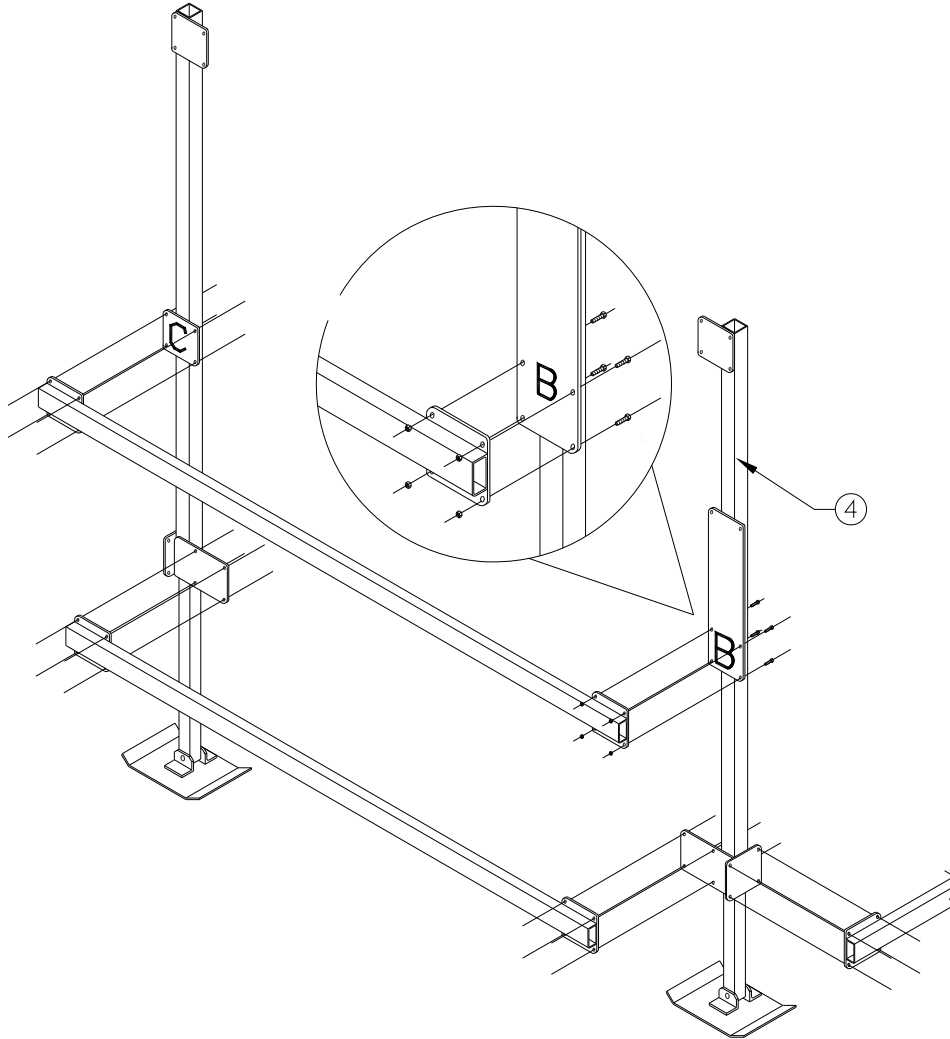

Figure 3-4
1. Refer to Figure 3-4. Loosen and remove all bolts from horizontal tubes that attach to the 'B' leg of the lift. Remove and discard the old 'B' leg and replace with the new 'B' leg supplied (detail 4).
5. Fasten a long horizontal tube across each end to connect the two sides using hardware shown in Figure 3-4. **DO NOT TIGHTEN.**